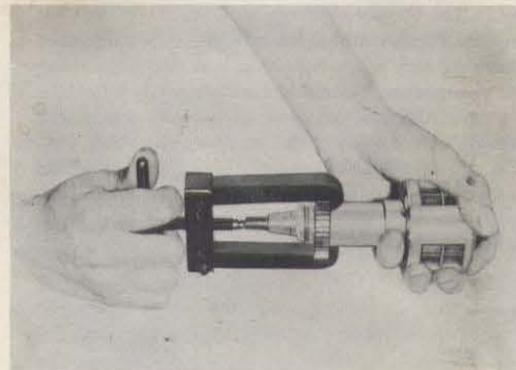

Figure 12—Removing Small Distributor Gear With No. 11-1037 Puller
(6) Before installing new races in the front end plate and housing, first put in the flat insulating washer in the bottom of the recess for the bearing so that the cut in it will line up with the oil recess. Then spread a few drops of oil evenly over one side of the insulating strip. Bend the strip in a circular form with the oiled side inside and overlap the ends enough to allow the strip to fit loosely into the recess for the outer race. When it is released, it will expand against the walls and the ends will overlap slightly in the recess cut for them. Press in the outside ball race for the front end plate with tool No. 11-976 and the outside ball race for the housing with tool No. 11-970. Cut off the surplus part of the insulating strip with tool No. 11-705.
(7) Press on the inside ball race for the drive shaft end bearing with tool No. 11-1032 which is also used for pressing on the small distributor gear. The small distributor gear can be removed with puller No. 11-1037. (See figure 12.)
(8) Press on the inside ball race for the breaker end bearing with tool No. 11-1036.
(9) Tool No. 11-1350 is used to support magnet in arbor press when pressing on the inner bearing races.